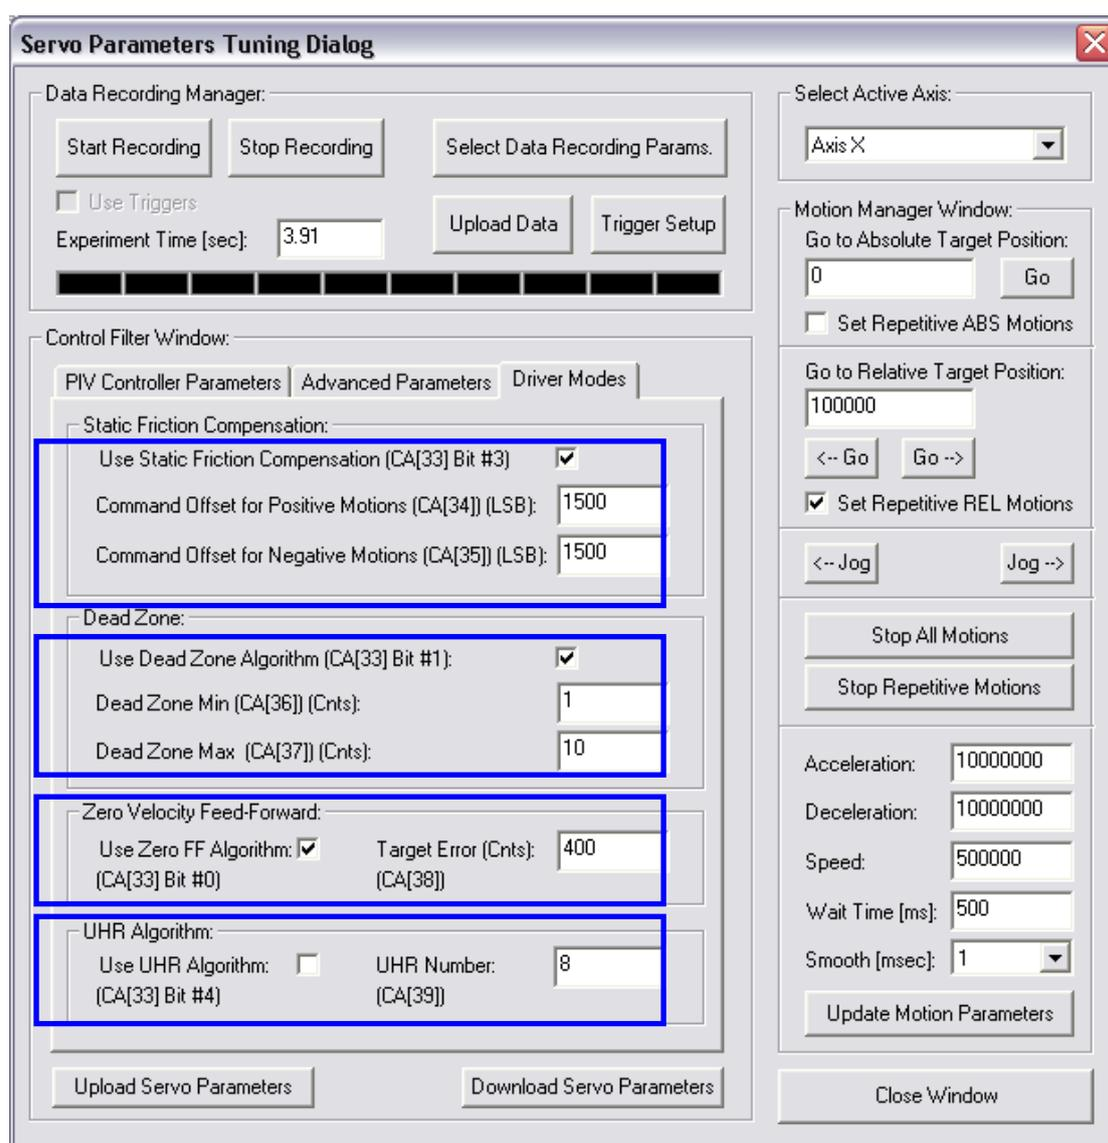

Figure 13: Defining “Driver Modes” for AB1A Driver
1. In the “Servo Parameters Tuning Dialog” dialog box click the “Driver Modes” tab, see Figure 13.